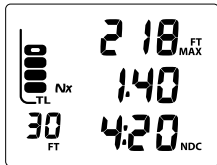

Fig. 46 - PDPS
**PDPS**, information includes (Fig. 46):